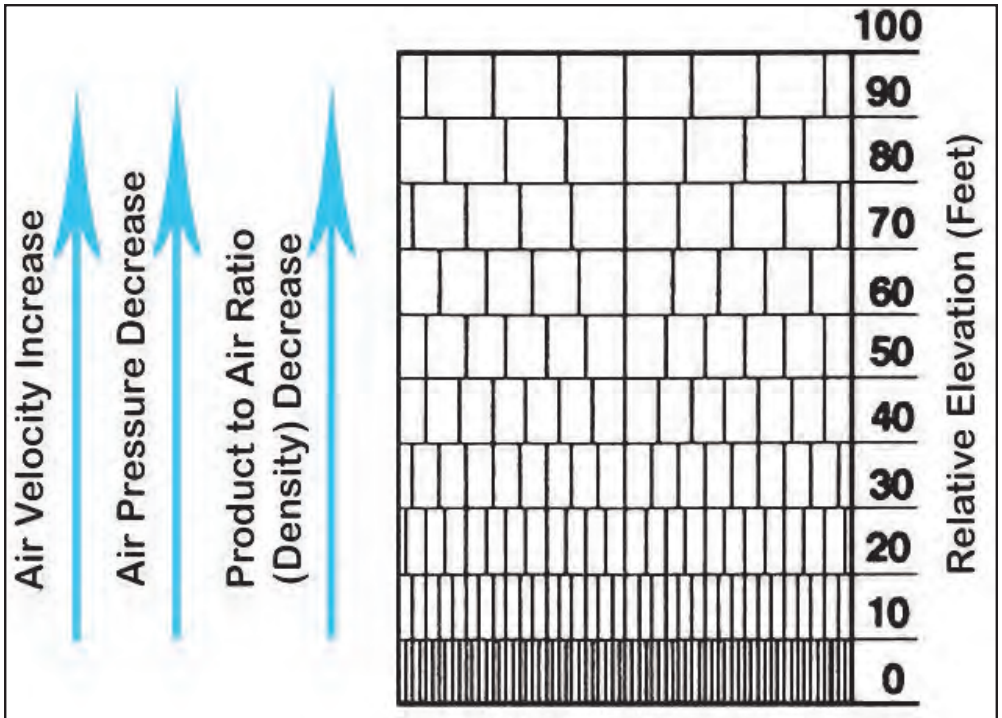

Figure 8. Relative Density at Various Elevations
2. The relative density (product to air ratio) decreases as the elevation increases. The higher the storage facility, the longer it will take to unload. Figure 8, illustrates the relative density at various elevations. Note that as the product head decreases, the air velocity will increase and air pressure will decrease.